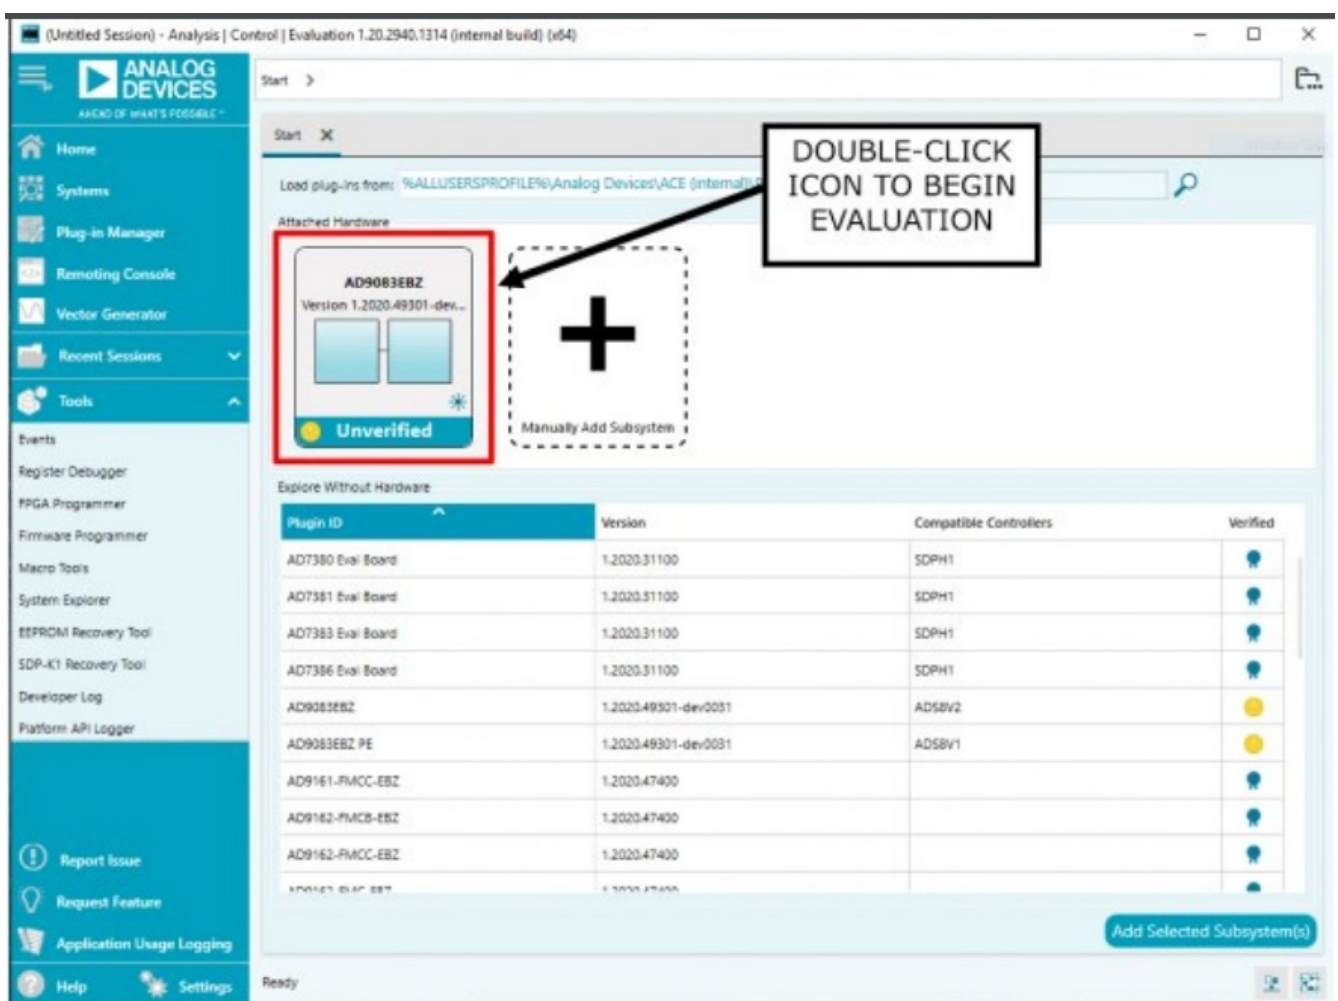

Figure 4. AD9083EBZ Evaluation Board and ADS8-V3EBZ Data Capture Board
- The board view tab enables the user to quickly set up the AD9083. Figure 4 shows the STARTUP WIZARD pane within the AD9083EBZ board view. It may take several moments for the board view to initialize.